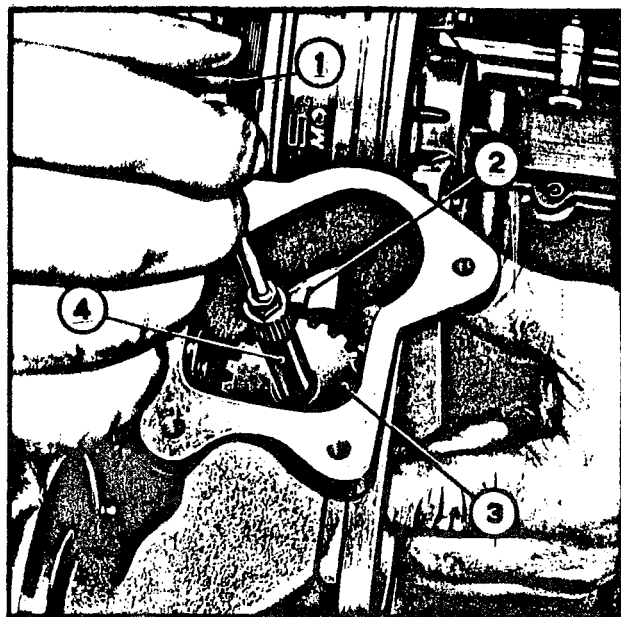
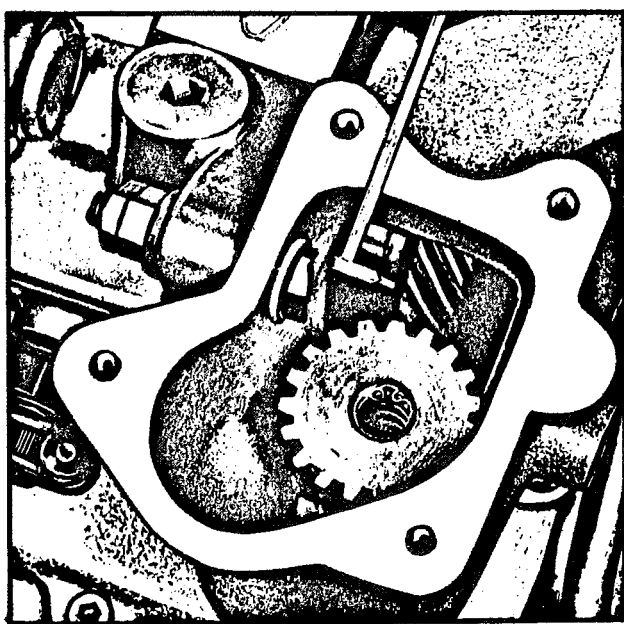

Fig. 15 - Position of the Driving Gear.
Fig. 16 - Timing the Injection Pump.
- Check that the centerline of a tooth of the injection pump driving gear is in line with the timing mark stamped inside the oil filler integral with the crankcase top cover (2 - fig. 15), and that the marks stamped on the pump boss and on the driven gear hub are aligned (fig. 16).
- Using tool 8012514 (1), partly extract the shaft (4 - fig. 15) .
- Turn the driving gear (3) by one tooth at a time, searching (by trial and error) the position in which, with drive shaft lower end engaging into its seat, the centerline of a tooth whatever of the driving gear is in line with the timing mark (2) located inside the oil filler (fig. 15).
Such hole is used to insert tool 8015384, as shown in figure 16, which makes the checking considerably easier.
Note - Starting from a certain engine serial number, the timing mark stamped on the pump boss has been replaced by a hole. Such hole is used to insert tool 8015384, as shown in fig.16, which considerably facilitates the checking.